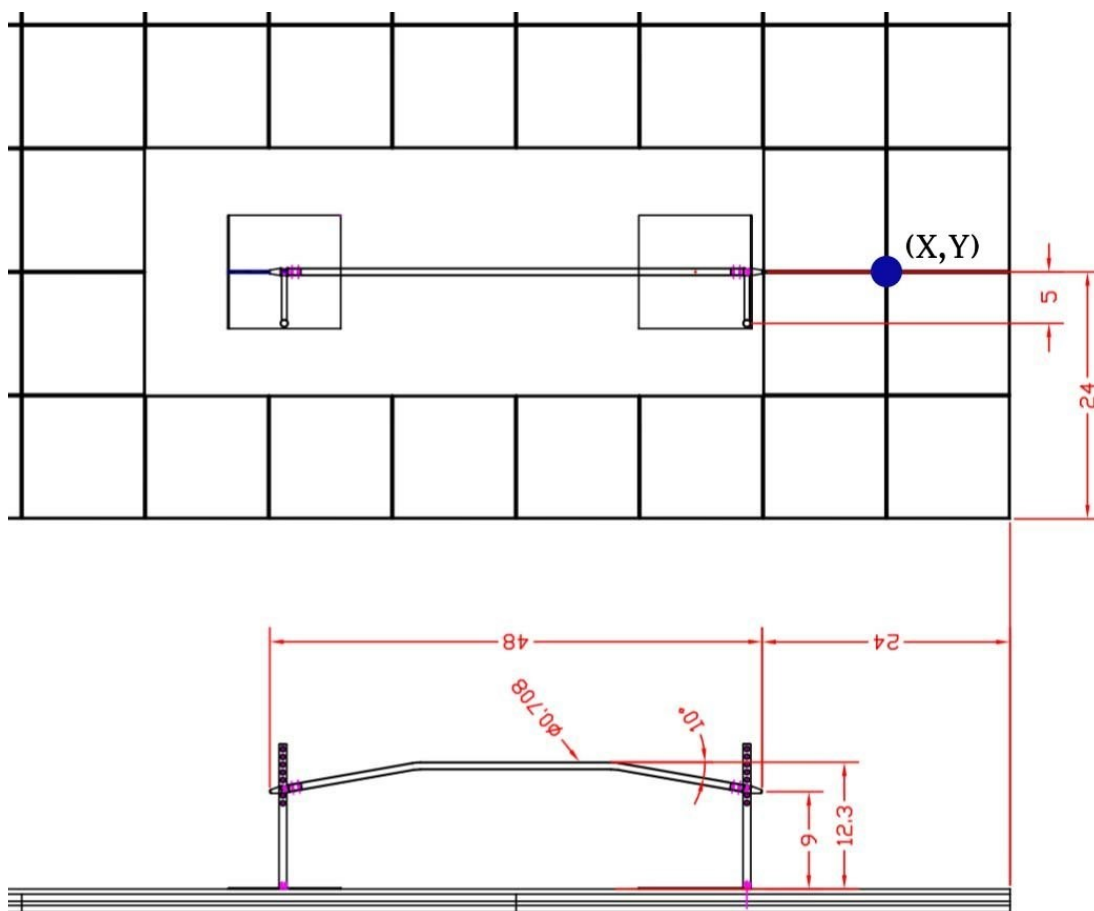

Figure 1. Zip line set up on the 8x8 grid: (top) top-view, (bottom) side-view. Measurements are in inches.
The zip line will be set up on an 8x8 grid, a section of which is shown below in **Figure 1**.
The zip line is set up such that it aligns with the grid as shown in the figure (aligned with the X-axis). At the start of the demo, a TA will provide you with the (X,Y) coordinates of the grid intersection immediately to the right of the zip line, indicated by the blue dot labeled (X,Y) in Figure 1.
2. Place the robot at (X,Y) as shown in **Figure 1**
1. Place the robot at (X,Y) and orient at 0° as shown in **Figure 1**